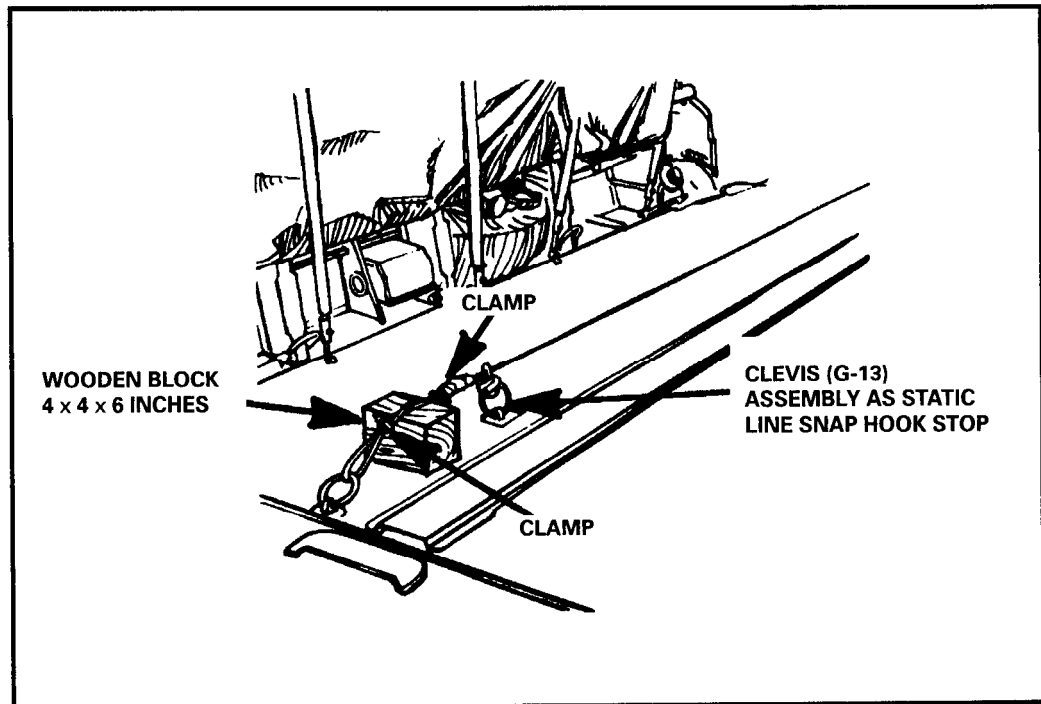

Figure 18-2. CH-53 anchor line installation.
(1) Install the anchor line cable on the port side of the floor using the tie-down fittings at station number 182 as the forward attachment point, and station number 522 as the rear attachment point (Figure 18-2, page 18-2).
(2) Use one ¼-inch or 3/8-inch steel cable, 30 feet 4 inches in length, with four clamps, lock washers, and bolts.